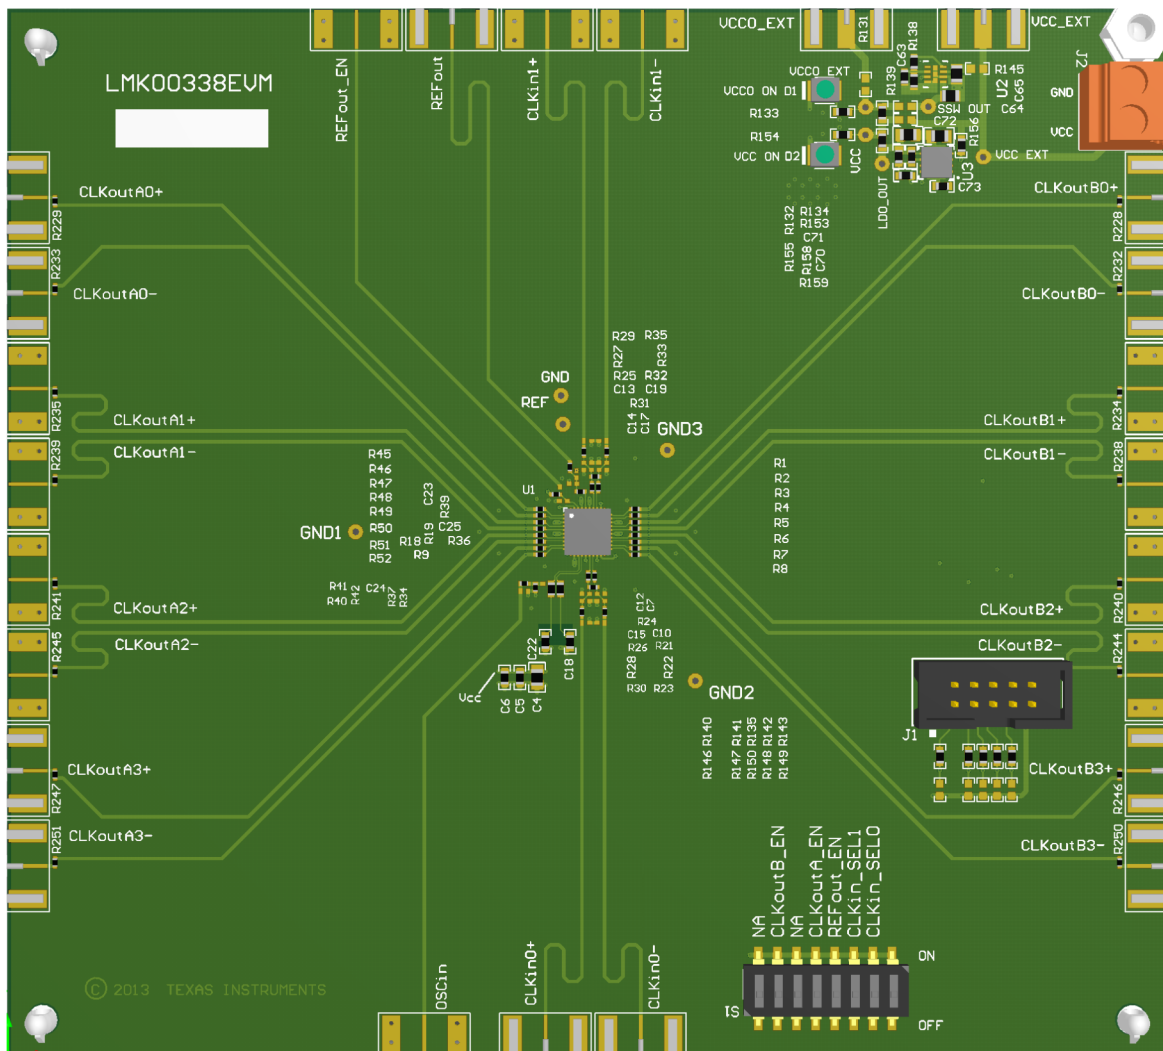

Figure 24. LMK00338 Layout Example
- For DC-coupled operation of an HCSL driver, terminate with 50 Ω to ground near the driver output as shown in Figure 24.